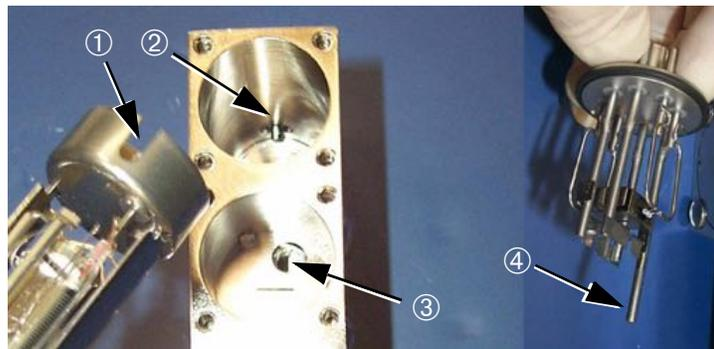

Figure 5-21 Spectrometer Tube Reassembly
1. Carefully reassemble the spectrometer tube (Figure 5-21) in the reverse order of these instructions.
Refer to Figure 5-21.
1. Replace the ground slit plate (see Figure 5-21 on page 5-17).
2. Replace the ion source (see Figure 5-21 on page 5-17).
Refer to Figure 5-21 on page 5-17.